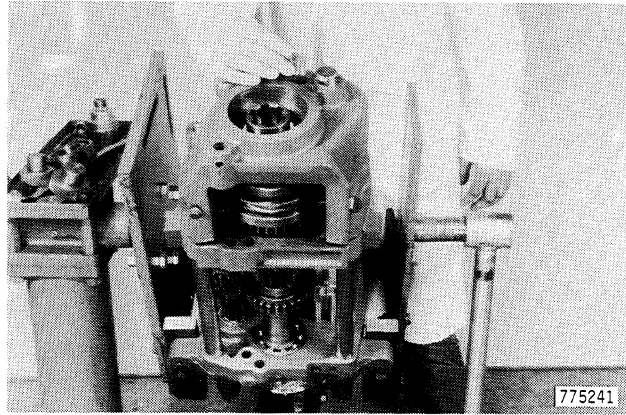

Figure 315
17. Install retaining plate, tab washer and cap screw, Figure 315.